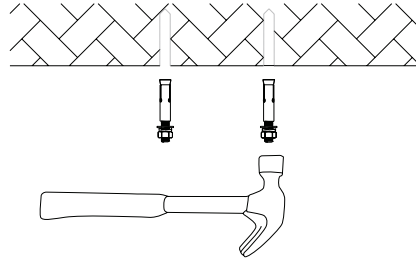

Figure 4
2. Fix screw into the hole with a hammer. (Figure 4)